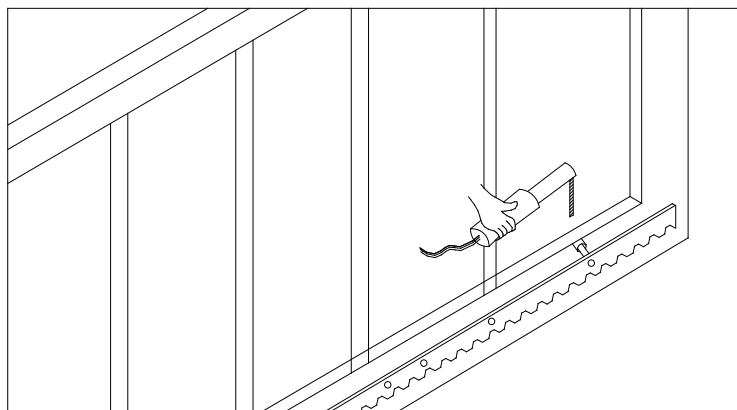

Figure 5
- 3) Manually move the gate (gate should be moved smoothly after motor unlocked) to check whether there is a fit clearance between rack and output gear, as shown in Figure 5.